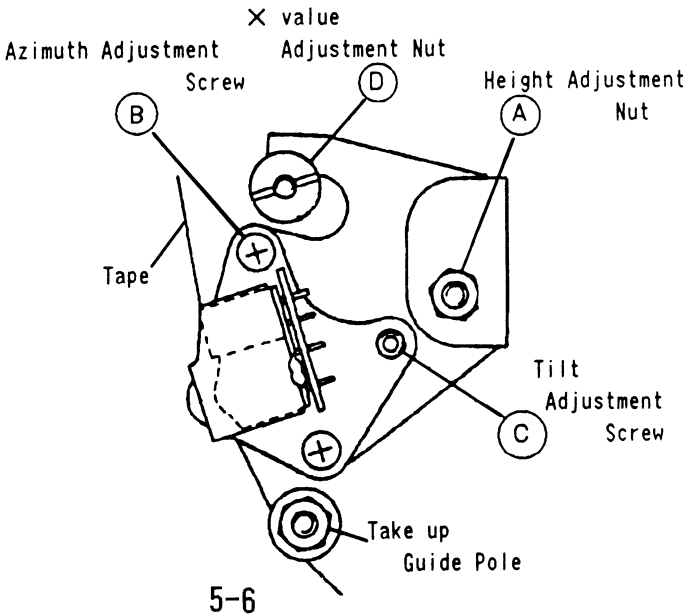

Fig. 5-9
3. Adjust the X value adjustment nut ⑤ for maximum PB FM signal for CH1 by using F6-N test tape (Refer to Fig. 5-9).